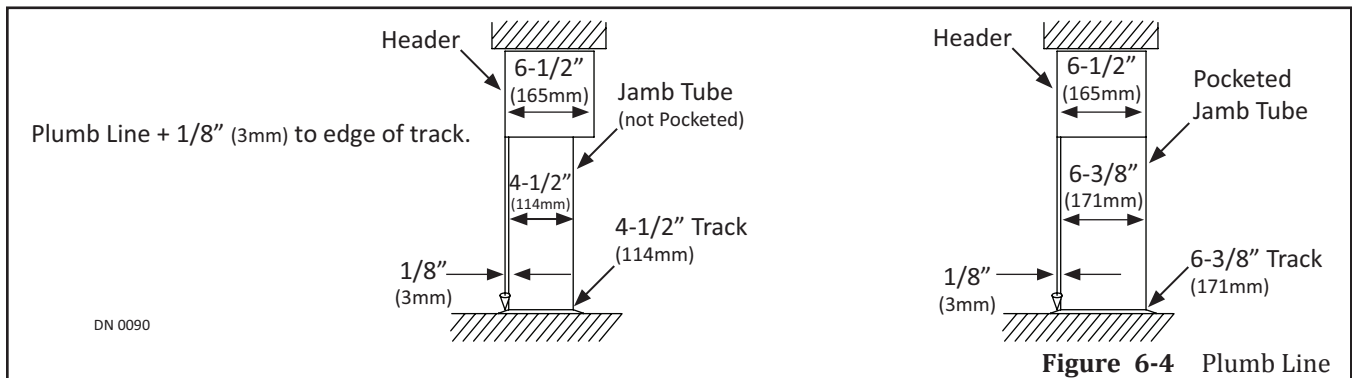

Figure 6-4 Plumb Line
7. Plumb the Floor Track by hanging a Plumb Bob from the Header. Please see Figure 6-4.